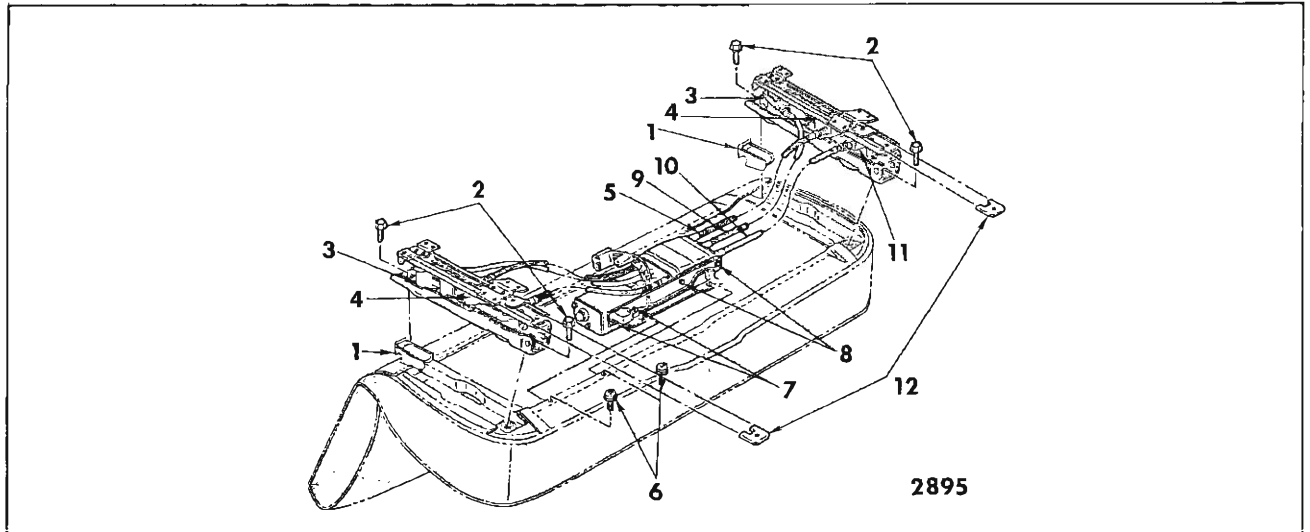

Fig. 15-20—Front Seat Assembly—Six-Way - "B & C" Full Width Seat
3. Remove motor and transmission support-to-seat frame attaching bolts (Fig. 15-20).
- Remove screws securing horizontal and vertical cable end plate on side of transmission from which cables are being removed (Fig. 15-20) and remove cables from seat assembly; then, disengage cables from end plate.
and horizontal actuator as shown in Figure 15-20).
- Remove screws securing horizontal and vertical cable end plate on both sides of transmission and detach cables from transmission (Fig. 15-20).
- Remove transmission to support attaching bolts (Fig. 15-20); then, disengage transmission from motor drive coupling and remove transmission from seat assembly.